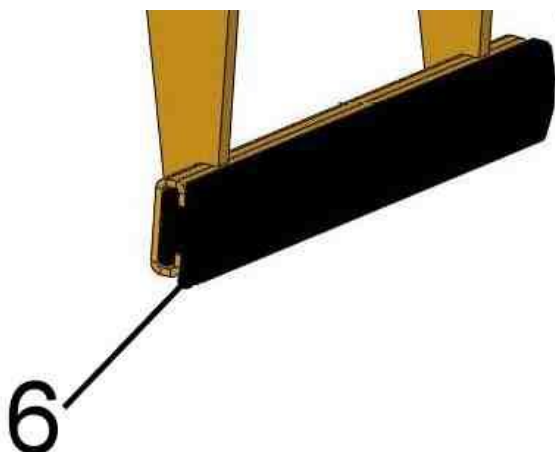

Fig. 1
Regular control for dirt (e.g. little stone particles) in the upper area (see points in figure detail „X“ in Fig. 2) of the rubber gripper bar (6) → see Fig. 1 / Fig. 2